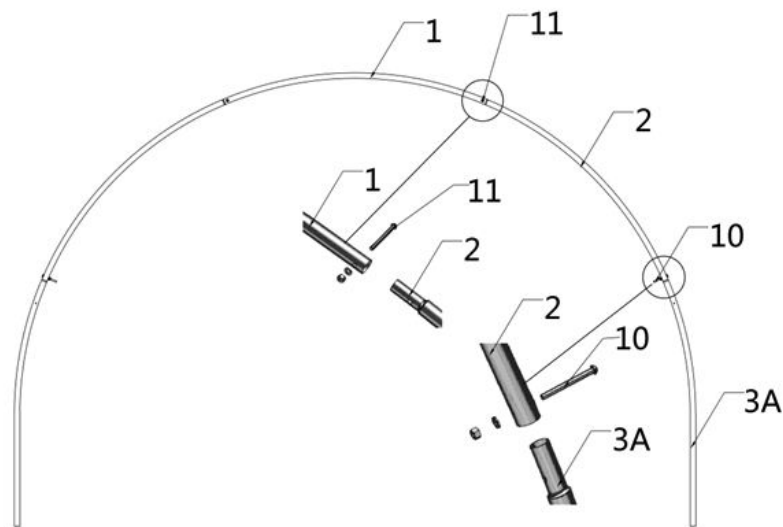

Figure 1
- The building includes 7 trusses : (1) Front truss, (1) rear truss, and (5) middle trusses. The front truss fabric panels and the top fabric (#15) have been connected as a whole.
- Parts used to install the front truss in this step (refer to Figure 1) :
- (1) Peak arch tube (#1)
- (2) Middle rafter tube (#2)